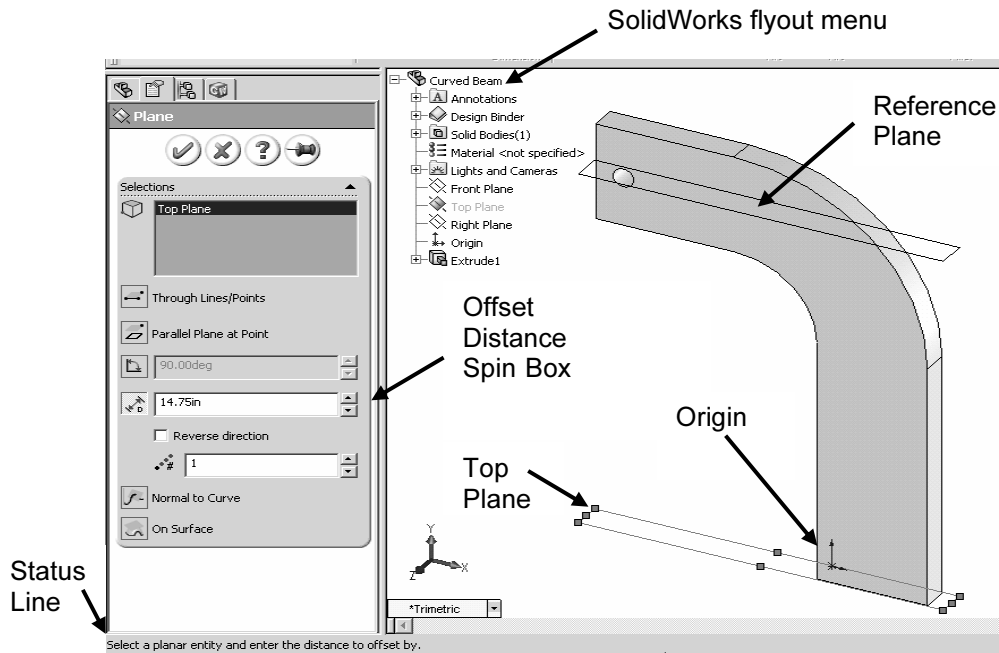

Figure 8 – The **Plane** property manager and various selections made to create a reference plane through the bottom of the hole.
1. From the main menu, select **Insert**. Then, from succeeding pull-down menus make the following selections: **Reference Geometry** followed by **Plane...** The **Plane** property manager opens *and* the SolidWorks “flyout” menu also appears at the upper-left corner of the graphics screen as shown (expanded) in Fig. 8.
2. On the graphics screen it may be necessary to click the “+” sign adjacent to the SolidWorks **Curved Beam** icon to display the complete “flyout” menu illustrated in Fig. 8. Continue to refer to Fig. 8 in steps 3 through 5 below.
4. From the SolidWorks flyout menu, select **Top Plane**. For users who elected to open the **Curved Beam** part file available at the textbook web site, the top plane passes through the origin, which is located on the bottom of the model¹ in Fig. 8.